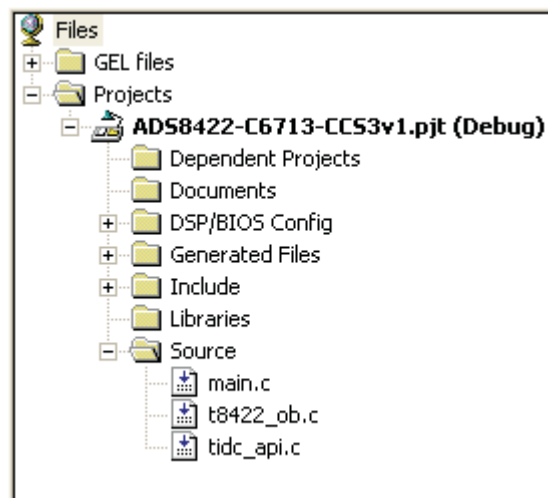

Figure 7. CCS Project View
- Once the project is open, expand the project tree in the project view window of CCS by clicking on the + (plus sign) in front of it, and expand the Source files as well. The project window should look like the one in Figure 7.